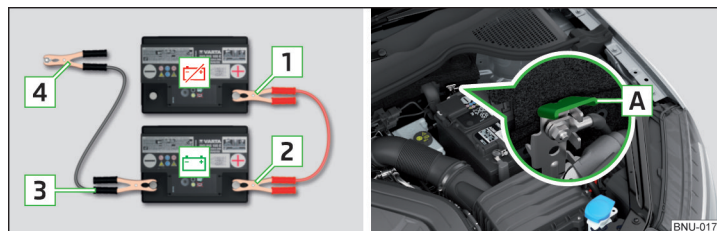

Fig. 326 Jump-starting: 🚫 - discharged battery, 📖 - power-supplying battery/ground point of the engine for the START-STOP system
- › For vehicles **with** the START-STOP system, secure the clamp **4** to the ground point of the engine **A** » Fig. 326.